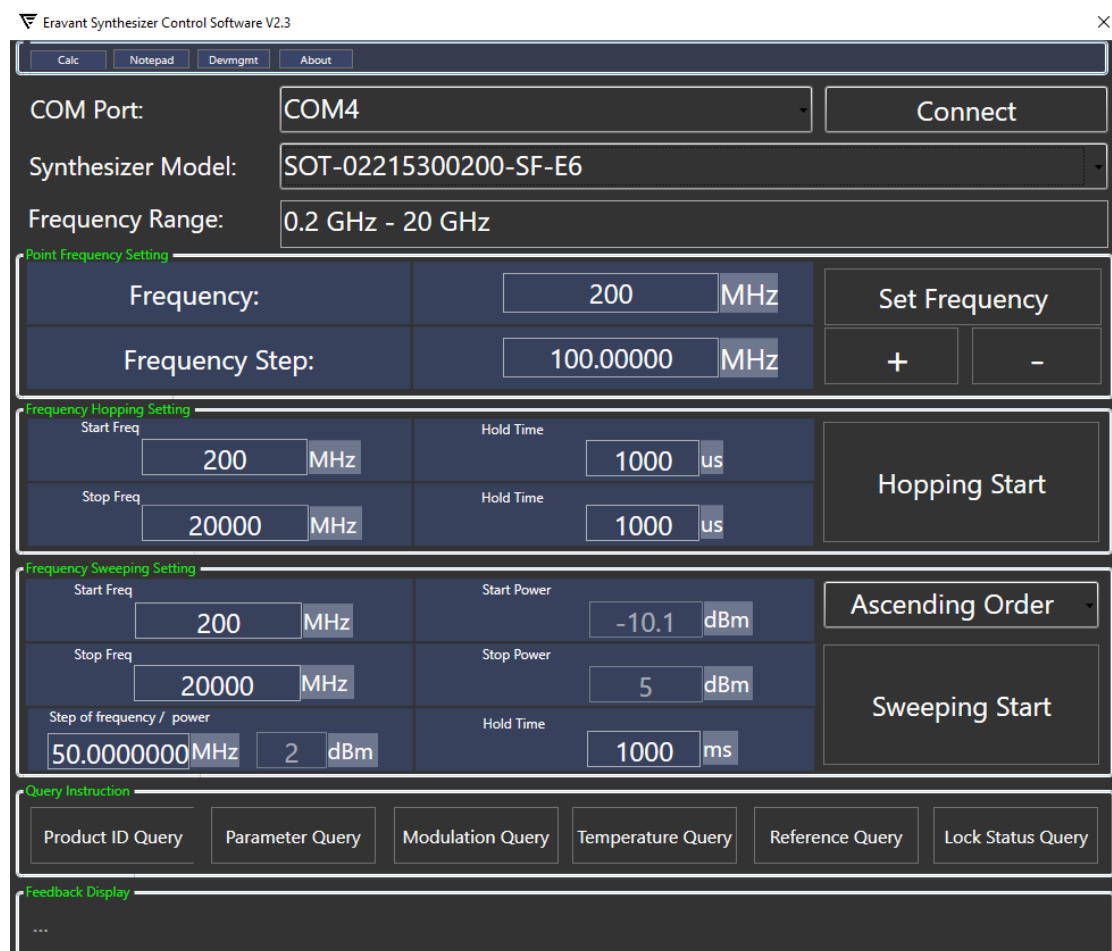

Figure 3. GUI Window
6. After completing the connections as shown in Figure 1 or Figure 2, launch the GUI, and select the correct synthesizer model as well as the communication port (COM3 or others, depending on the PC devices). Initiate the connection by clicking the 'Connect' button to establish a connection between the SOT-EVA-S1 and the PC. The sample GUI window is shown in Figure 3.